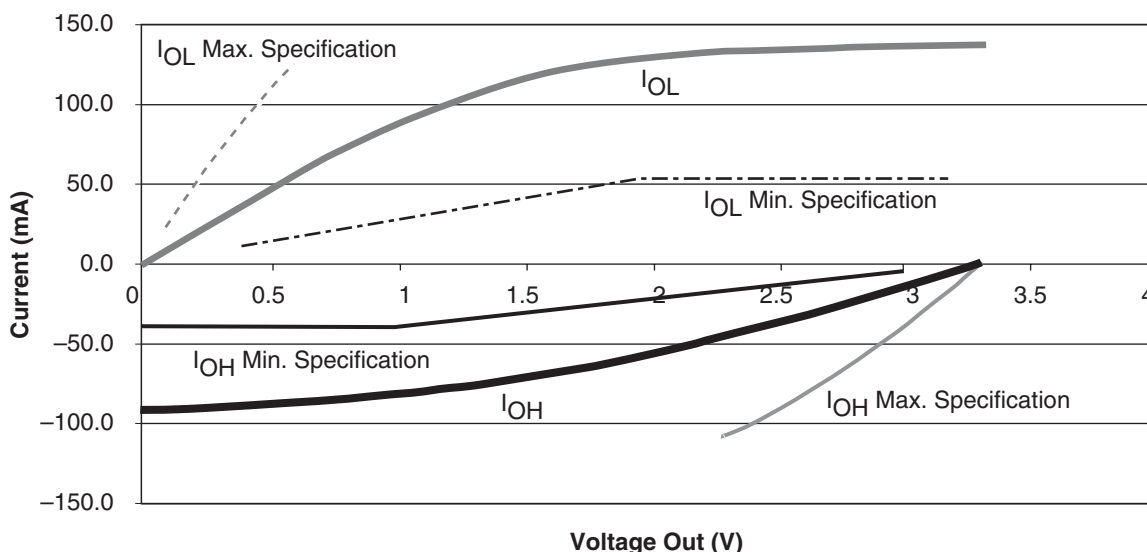

Figure 2-9 • 3.3V PCI V/I Curve for the RTSX-SU Family
1. Refer to the V/I curves in Figure 2-9 on page 2-19. Switching current characteristics for REQ# and GNT# are permitted to be one half of that specified here; i.e., half-size output drivers may be used on these signals. This specification does not apply to CLK and RST#, which are system outputs. The "Switching Current High" specification is not relevant to SERR#, INTA#, INTB#, INTC#, and INTD#, which are open drain outputs.
2. Maximum current requirements must be met as drivers pull beyond the last step voltage. Equations defining these maximums (C and D) are provided with the respective curves in Figure 2-9 on page 2-19. The equation defined maximum should be met by the design. In order to facilitate component testing, a maximum current test point is defined for each side of the output driver.